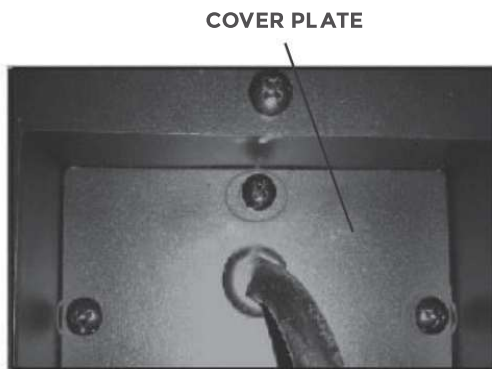

Fig 5-1
A. Remove the cover plate from the right side bottom of the appliance by removing the three screws, as shown above. **(Fig 5-1)**
E. Reinstall the cover plate using the three screws, as shown in **Fig 5-1**.